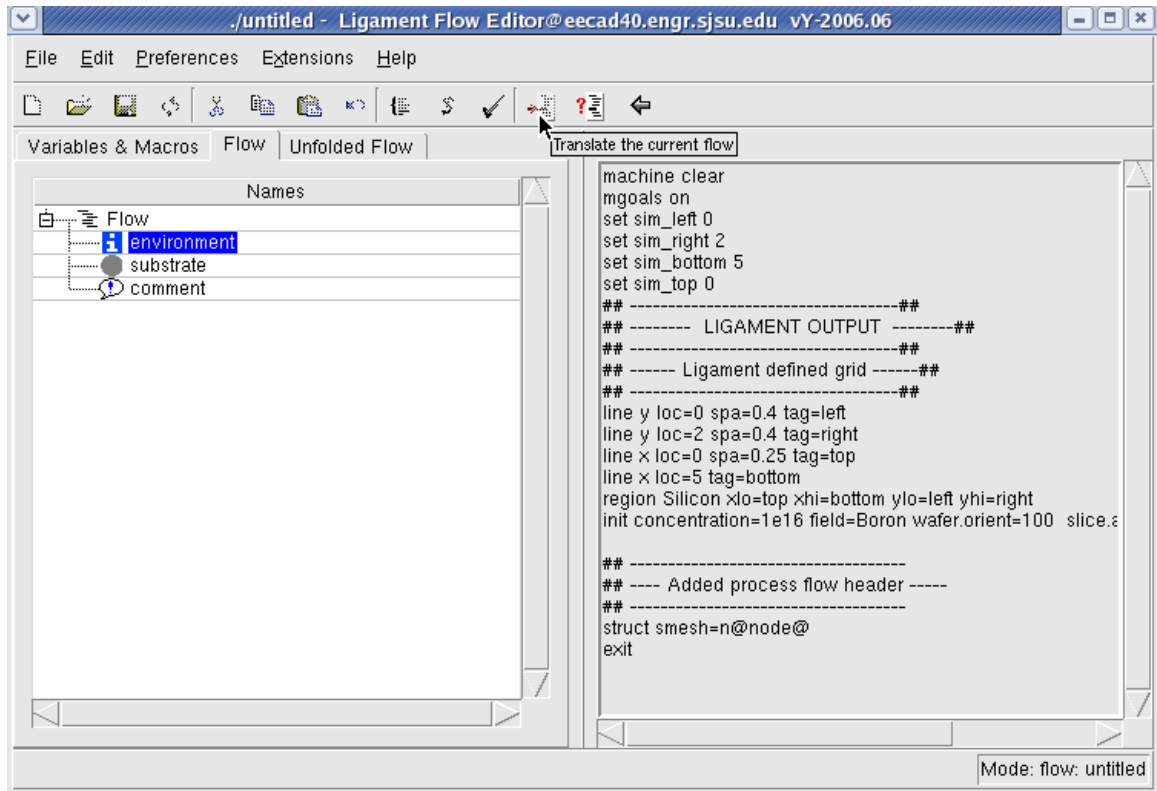

Figure 41: Translated flow into sprocess.
11. Click on the translate current flow icon (Figure 41). You should see the run deck that has been created by the gui. The simulation is x from 0 to 5 microns (up and down) and y from 0 to 2 microns (left and right). The simulation is 5 microns deep by default.